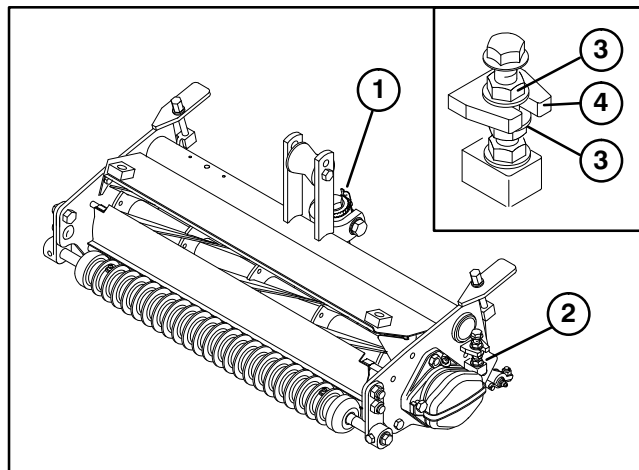

Figure 1
(Fig. 1 & 2)
2. Make sure reel contact is removed by turning bedknife adjustment knob counterclockwise (Fig. 1).
4. Loosen locknuts retaining L.H. bedbar pivot housing (Fig. 1).
5. Rotate flange nuts (Fig. 1, inset), on top and bottom of frame tab, clockwise or counterclockwise to raise or lower end of bedbar, as required. Do not loosen bottom flange nut. Tighten flangenuts against frame tab when desired adjustment is attained.